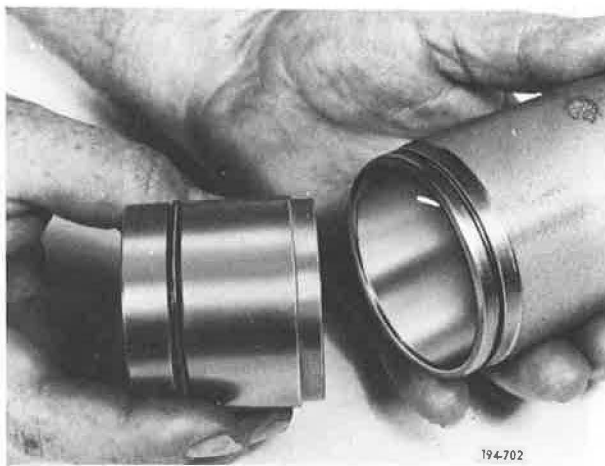

Figure 5-878. Installing Piston
12. Install Hi-range piston into Hi Direct shift cylinder. See **Figure 5-878**.